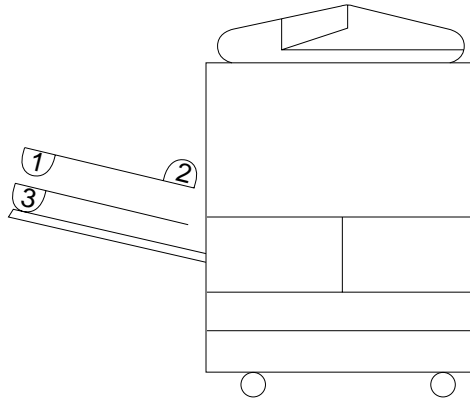

Figure 5-623a
- a. If copies are made of an odd number of originals in reversal delivery and skipping modes, they will be stacked as shown in Figure 5-623a.